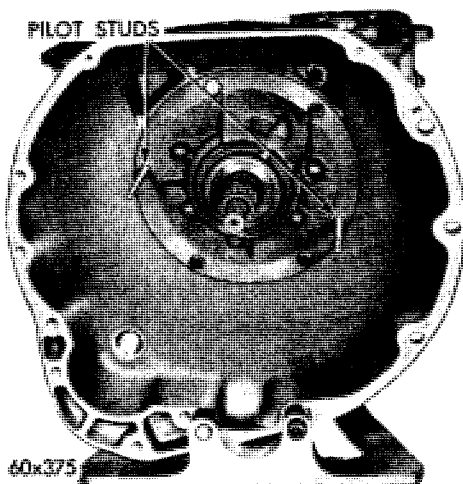
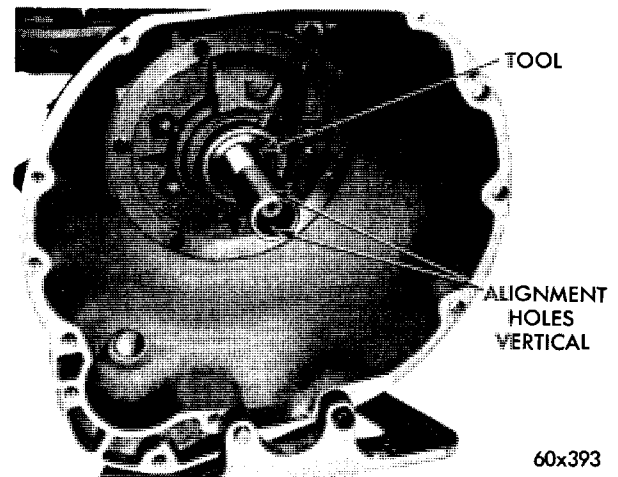

Fig. 55—Installing Front Pump and Reaction Shaft Support Assembly
Fig. 56—Aligning Front Pump Rotors
- (1) Screw two pilot studs, Tool C-3288 in front oil pump opening in the case (Fig. 55).
- (2) Place a new rubber seal ring in groove on outer flange of oil pump. Make sure seal ring is not twisted.
- (3) Insert aligning Tool C-3756 through pump body and engage with inner rotor.
- (4) Install the assembly in the case, tap lightly with a soft mallet if necessary. Install four bolts, remove pilot studs and install remaining bolts and pull down evenly, then tighten bolts to 14-16 foot-pounds torque.
- (5) Rotate the pump rotors with Tool C-3759 until the two small holes in the handle of tool are vertical (Fig. 56). This will locate the inner rotor so the converter impeller shaft will engage the inner rotor lugs during installation.